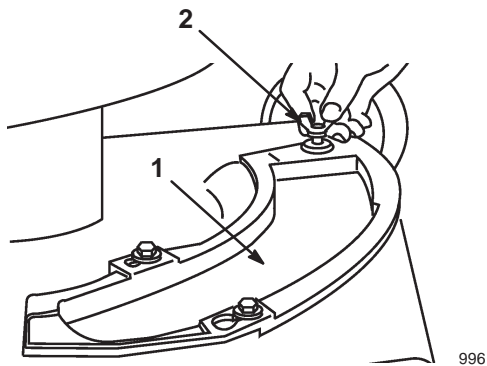

Figure 34
3. Remove the wing screw that fastens the cover plate to the housing (Fig. 34).
3. Remove the wing screw that fastens the mulch plate to the housing (Fig. 34).